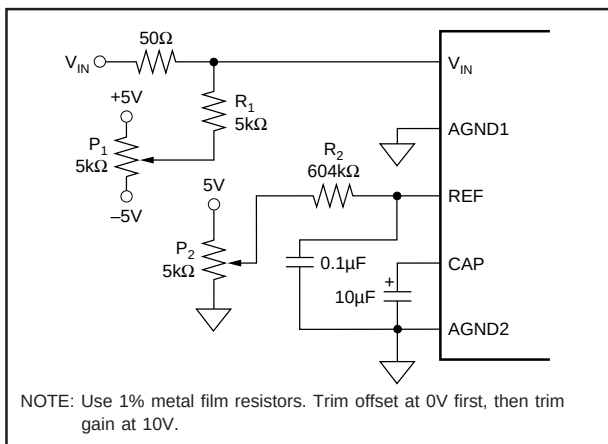
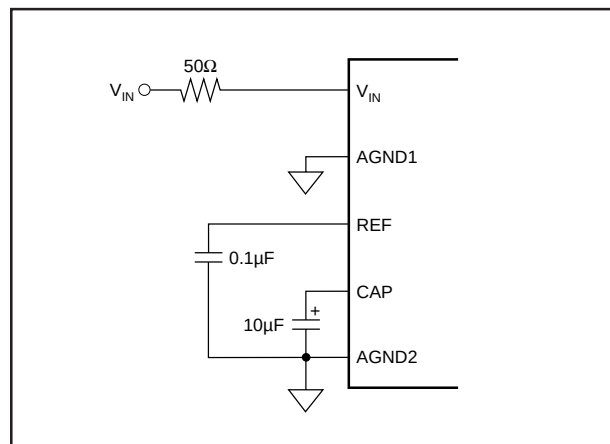
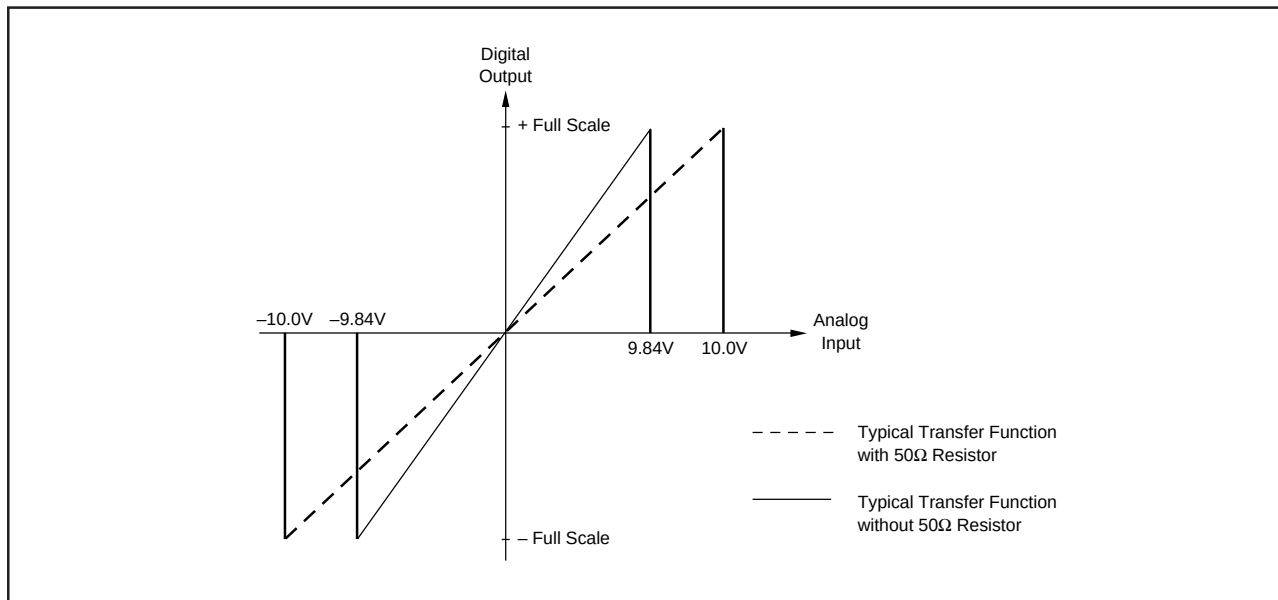

FIGURE 4a. Circuit Diagram With External Hardware Trim.
FIGURE 4b. Circuit Diagram Without External Hardware Trim.
FIGURE 5. Comparison of the ADS7810 Transfer Function With and Without the  $50\Omega$  Series Resistor on  $V_{IN}$ .
T = +25°C,  $f_s = 800\text{kHz}$ ,  $+V_{\text{DIG}} = +V_{\text{ANA}} = +5\text{V}$ ,  $-V_{\text{ANA}} = -5\text{V}$ , using internal reference and the input  $50\Omega$  resistors as shown in Figure 4b, unless otherwise specified.
$T = +25^{\circ}\text{C}$ ,  $f_S = 800\text{kHz}$ ,  $+V_{\text{DIG}} = +V_{\text{ANA}} = +5\text{V}$ ,  $-V_{\text{ANA}} = -5\text{V}$ , using internal reference and the  $50\Omega$  input resistors as shown in Figure 4b, unless otherwise specified.
The ADS7810 offers a standard  $\pm 10V$  input range. Figures 4a and 4b show the necessary circuit connections for the ADS7810 with and without external trim. Offset and full scale error(1) specifications are tested and guaranteed with the  $50\Omega$  resistor shown in Figure 4b. This external resistor makes it possible to trim the offset  $\pm 50mV$  using a trim pot or trim DAC. This resistor may be left out if the offset and gain errors will be corrected in software or if they are negligible in regards to the particular application. See the **Calibration** section of the data sheet for details.
To calibrate the offset and gain of the ADS7810, install the proper resistors and potentiometers as shown in Figure 4a. The calibration range is  $\pm 50\text{mV}$  for bipolar zero and  $\pm 120\text{mV}$  for full scale.
See Figure 4b for circuit connections. Note that the actual voltage dropped across the  $50\Omega$  resistor is nearly two orders of magnitude lower than the voltage dropped across the internal resistor divider network. This should be taken into consideration when choosing the accuracy and drift specifications of the external resistors. In most applications, 1% metal-film resistors will be sufficient.
The external  $50\Omega$  resistor shown in Figure 4b may not be necessary in some applications. This resistor provides trim capability for the offset and compensates for a slight gain adjustment internal to the ADS7810. Not using the  $50\Omega$  resistor will cause a small gain error but will have no effect on the inherent offset error. Figure 5 shows typical transfer function characteristics with and without the  $50\Omega$  resistor in the circuit.